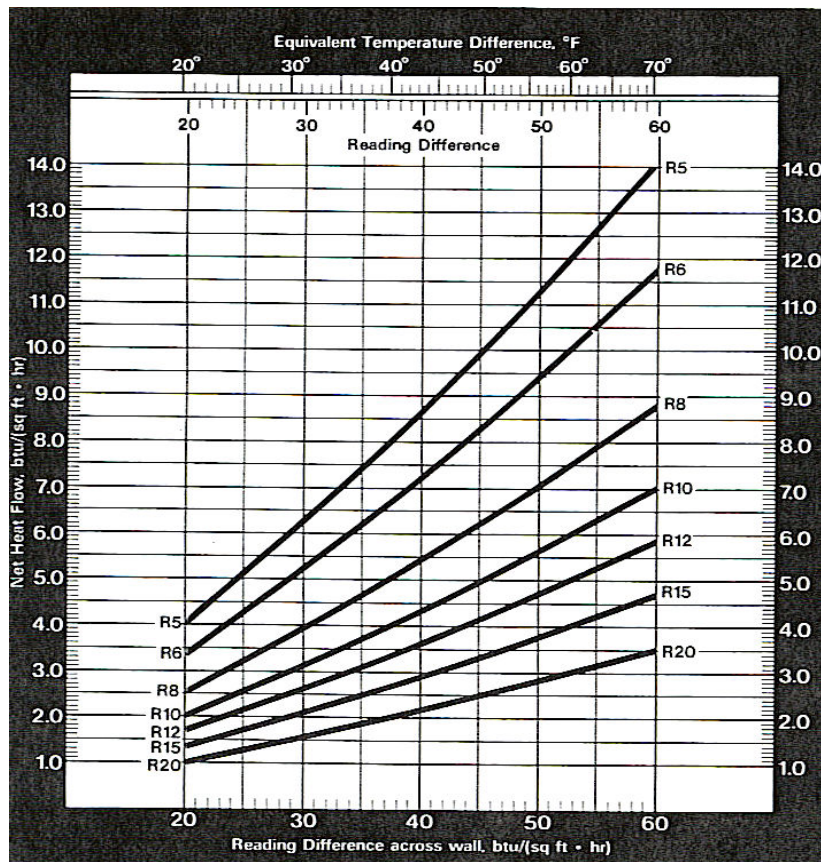

Figure 3. R-Value Chart, Courtesy of Omega Engineering
7. Using the R-value chart in Figure 3, find the point where the two above readings intersect to determine the R-value of the unknown material.
The X-axis is of Figure 3 is the reading difference across the wall in Btu per square feet per hour. The Y-axis is net heat flow through the wall in Btu per square feet per hour.